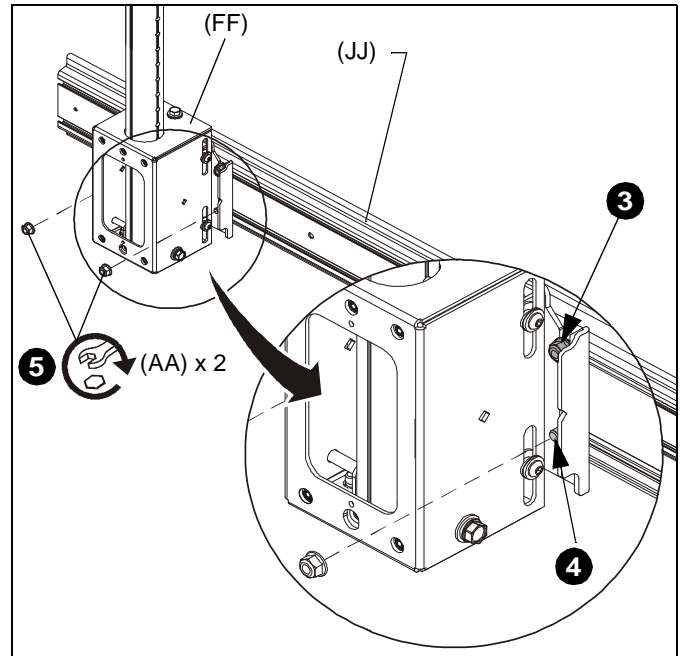

Figure 6
- Partially fasten one 5/16" lock nut (AA) to each stud on upper T-slot studs.
- Slide top T-slot studs (EE) with attached lock nuts (AA) down into top openings on array heads (FF). (See Figure 6)
- Slide studs on lower T-slot studs (EE) into lower slots on array head (FF) while bringing mounting rail against array head.
- Tighten array head to mounting rail by tightening lock nuts on upper T-slot studs and adding two 5/16" lock nuts (AA) to lower T-slot studs. (See Figure 6)